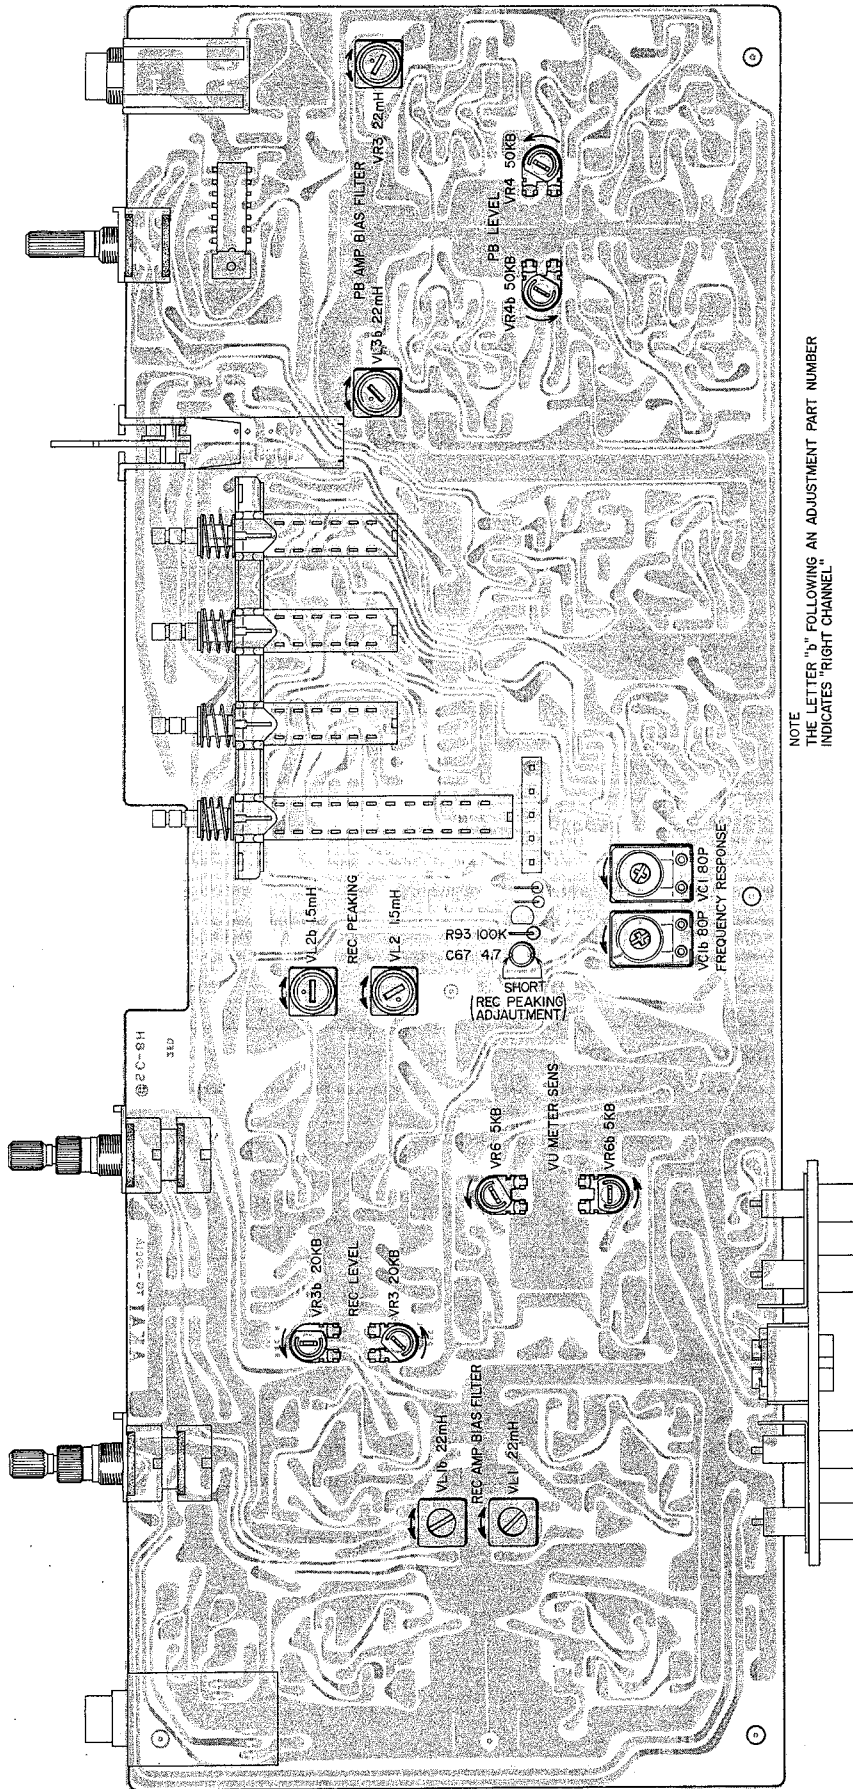

Fig. 23 Pre Amp P.C Board TG-5001A
4. Stop recording bias oscillator while making Rec Peaking Adjustment. (Refer to Fig. 23.)